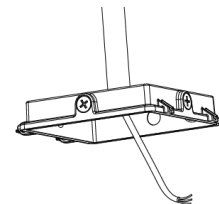

Figure 1-3
3. Fix the fixture housing cover on the 3/4 tube. Figure 1-3